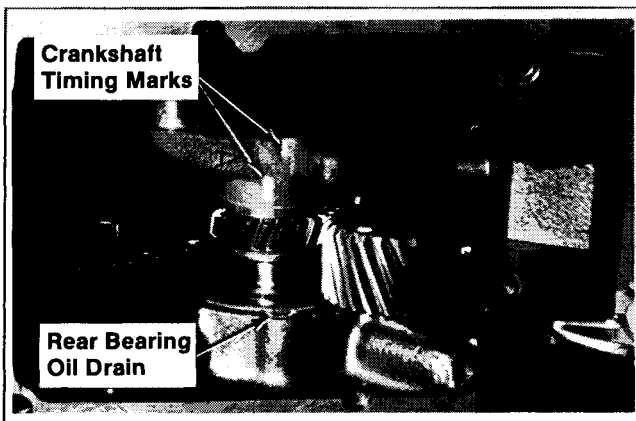

Figure 12-21. Aligning Crankshaft And Rear Bearing Oil Drain.
- Lubricate the rear bearing surface of crankshaft. Insert the PTO end of crankshaft through the rear bearing. "Straddle" the primary and secondary timing marks on crankshaft over the rear bearing oil drain. Refer to Figure 12-21.